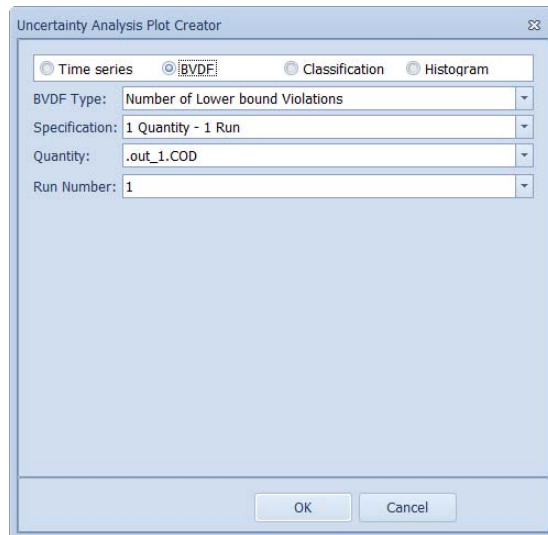

Figure 12.2 Dialogue for the automatic generation of ‘special’ plots for the Uncertainty Analysis experiment
- In the Plot Creator dialogue window (Figure 12.2), it may be interesting to plot the following: